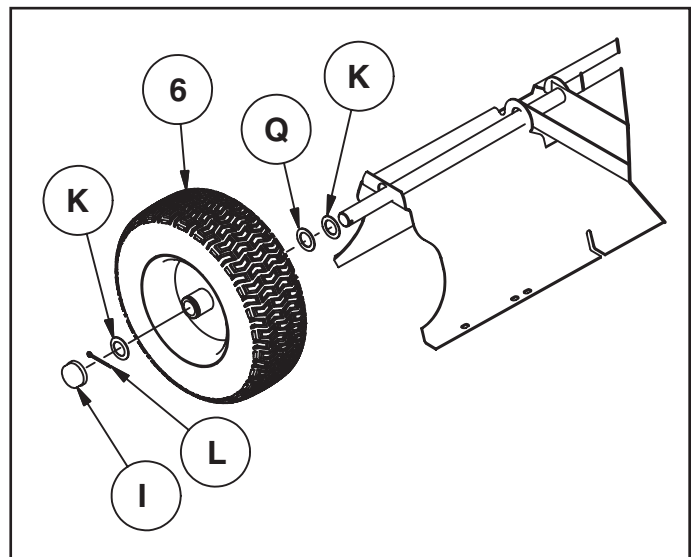

FIGURE 5
STEP 5: (SEE FIGURE 5)
- Assemble a washer (K), a thick washer (Q), a wheel (6) with the valve stem facing out, and another washer (K) onto the axle. Assemble a cotter pin (L) to the axle. Press a hub cap (I) onto the washer (K). Repeat on other end.